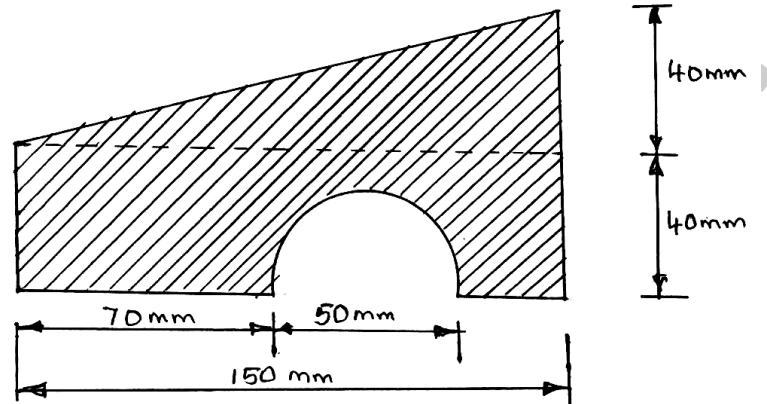

Fig.Q.13(a)
13. (a) Locate the centroid for the lamina shown in Fig. Q.13 (a)